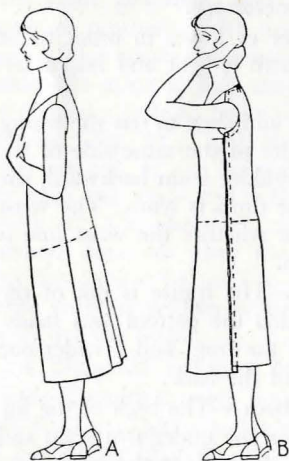

FIG. 9.—Side seams of dress swing backward.
10. **Side seams swing backward and dress stands out at bottom in back.**—The crosswise grain of the material sags at the sides. This often occurs if there are protruding shoulder blades (Fig. 9). Open the side seam and repin it at the hip so the crosswise threads are par-